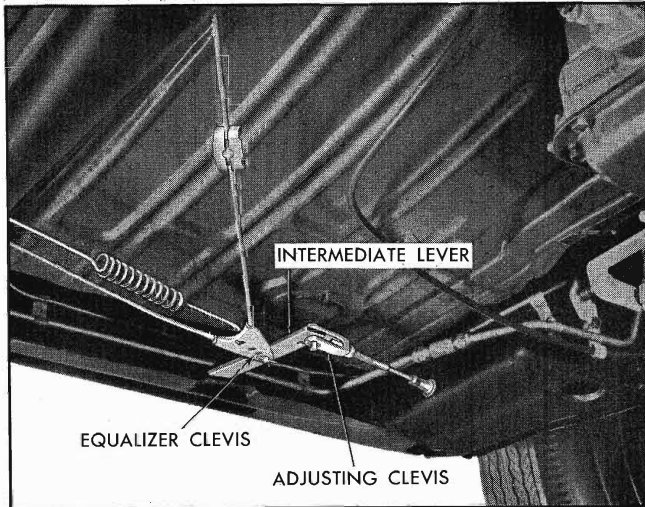

Fig. 5-11 Parking Brake Linkage Under Car
3. If equalization requires more than a few notches movement, retighten adjusting screw to point for proper adjustment of that brake and equalize rear cable by loosening the cable clamp screws at the equalizer clevis (Fig. 5-11), and pulling downward on the tight side of the cable. It may be necessary to open the clamp with a screwdriver to allow the cable to equalize.